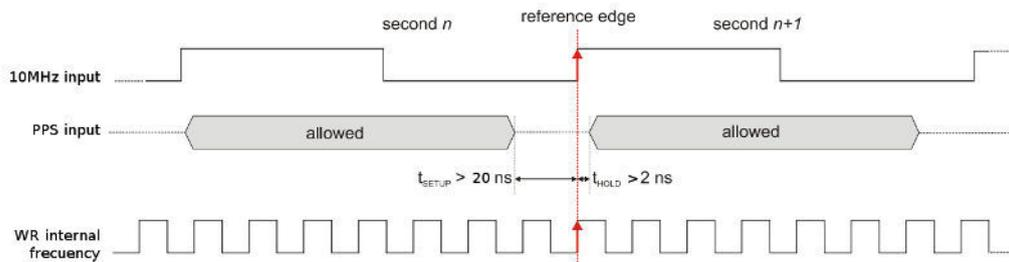

Figure 6: External reference requirements
- $t_{\text{setup}}$  (PPS-to-10MHz) > 20 ns (see Figure 6)
The actual inter-second boundary is the 10 MHz rising edge after the rising edge of the PPS pulse (see Figure 6).